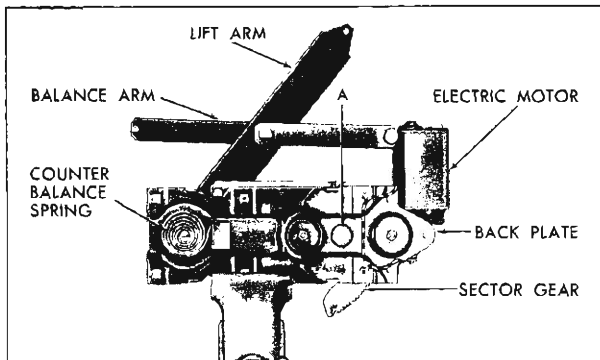

Fig. 51—Rear Door Window Regulator Motor Assembly
1. Remove electric window regulator assembly from door and/or rear quarter and clamp securely in vise (fig. 51).
2. Drill a $\frac{1}{4}$ " hole through sector and back plate within area indicated by "A" (fig. 51).
4. Remove motor attaching bolts and remove motor assembly from regulator (see fig. 51).